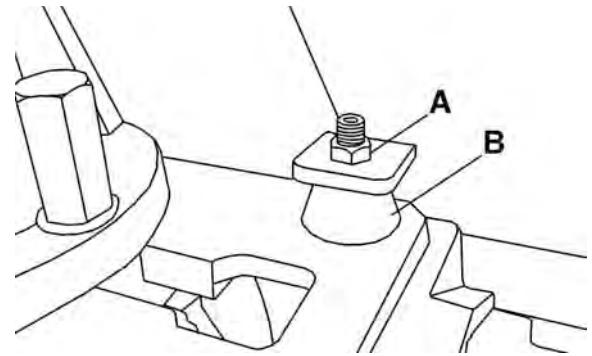

FIGURE 3
When the saw arm is in the extreme downward position, the teeth of the blade should be 1/16" below the table surface. If an adjustment is necessary, loosen the hex. nut (A) Fig. 3, and turn the rubber stop (B) in or out until the correct adjustment is made. Then retighten hex. nut (A).